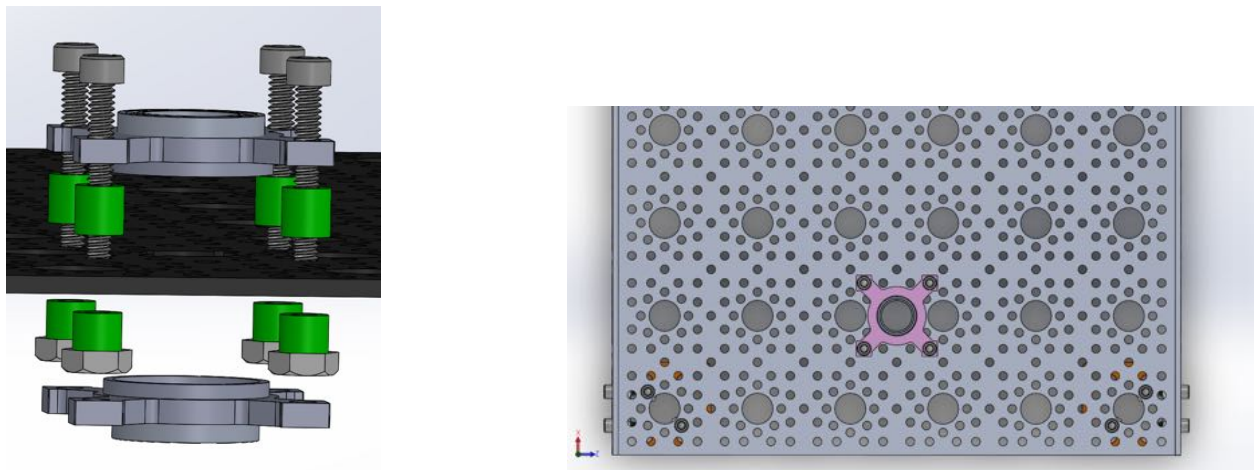

Figure 6: Mounting the pillow blocks
1. **Mount the pillow bearing blocks:** Using spacers **T1**, screws **B6**, and hex nut **B11**, mount the pillow blocks **S11** to the top of the body over the hole in the aluminum plate that you drilled earlier as shown in Figure 6.